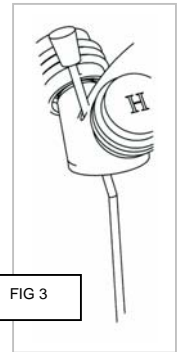

FIG 3
- The angled rod, which has a bend between a third to half way down, which should have the handle removed and fitted from the underside, with the angled section through the body, so that the rod drops down vertically (see FIG 3).